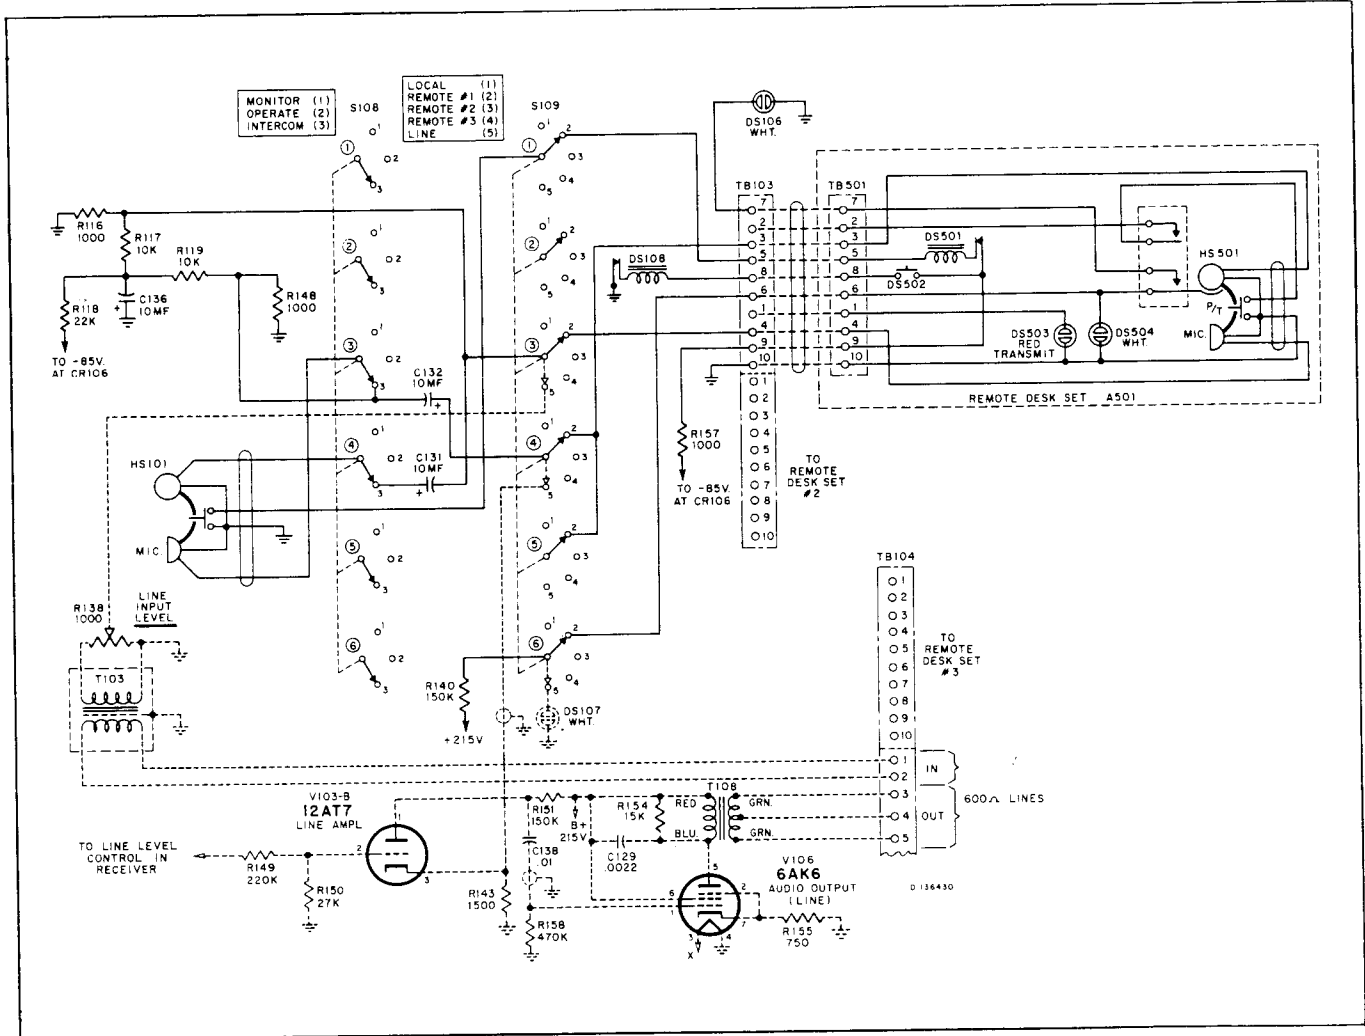

Fig. 57—Simplified Diagram, Intercom Function
The diagram, figure 57, presents the circuitry involved in a typical intercom operation. Remote location #1 is shown connected to the local operating position. Identical functions would be performed for either of the other two remote positions. Paragraph (f) details line operation in the Intercom function.
- (f) Line position operation is shown by the dotted lines in figure 57. When selector switch S109 is turned to the "Line" position, the local handset microphone is connected to the line by way of section 4 of S109, through V103B, the Line Amplifier, V106, the Audio Output, and transformer T108 to terminals 3, 4 and 5 of TB104. Control of the signal level to the line amplifier is performed by the Line Level Control. When S109 is switched to the Line position +215 volts is applied to DS107 through the contacts of section 6 (S109) thereby indicating Line operation to the local operator.